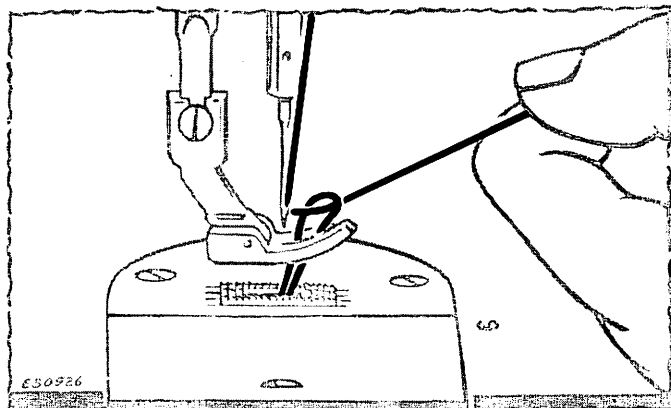

Fig. 20. Drawing Up Bobbin Thread
(See Fig. 20)
- Draw up needle thread; bobbin thread will come up with it through hole in throat plate, as shown in Fig. 20.